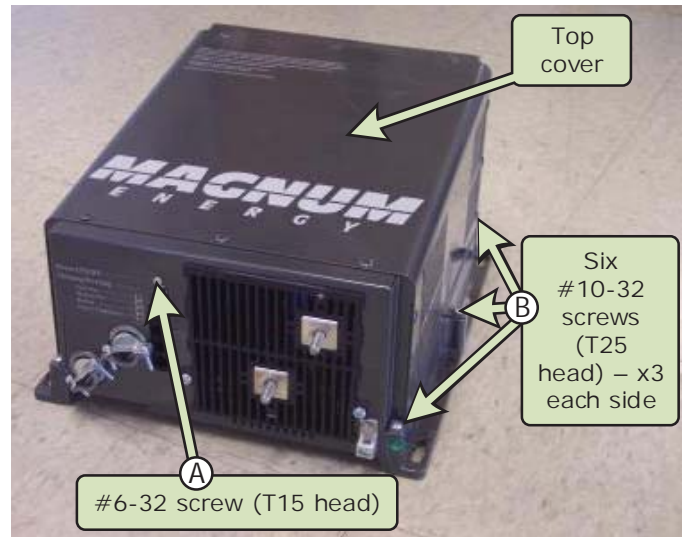

Figure 1, Top Cover Screws
1. Locate and remove the six #10-32 screws (T25 head) (Figure 1, Item B) holding the cover to the inverter base and the #6-32 screw (T15 head) (Figure 1, Item A) on the front of the inverter.